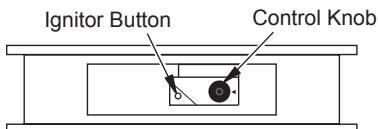

Figure 23 - Control Knob and Ignitor Button Location
4. Wait five (5) minutes to clear out any gas. Then smell for gas, including near the floor. If you smell gas, STOP! Follow "B" in the safety information, column 2, page 16. If you don't smell gas, go to the next step.
5. Turn control knob counterclockwise ↺ to the PILOT position. Press in control knob for five (5) seconds (see Figure 23).